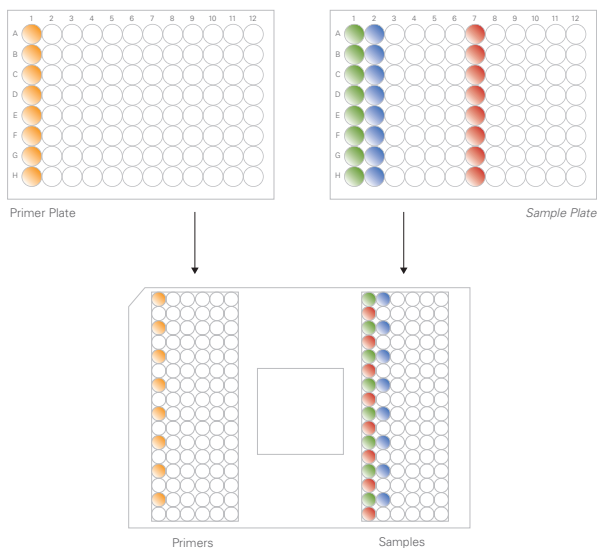

Fig 3. Loading of samples and primers to the 96:96 Dynamic Array IFC.
31. Transfer 5 μ L from each well of the *Sample Plate* to the primed 96:96 Dynamic Array IFC by using reverse pipetting. Change pipette tips after each sample. Samples are loaded into their respective inlets on the right side of the chip according to Figure 3. See Appendix 1 for a detailed instruction on sample loading.
32. Gently remove the Primer Plate aluminum sealing to avoid contamination between wells. Transfer 5 μ L from each well of the Primer Plate into the inlets on the left side of the chip according to Figure 3 by reverse pipetting. Change pipette tips after each transfer.